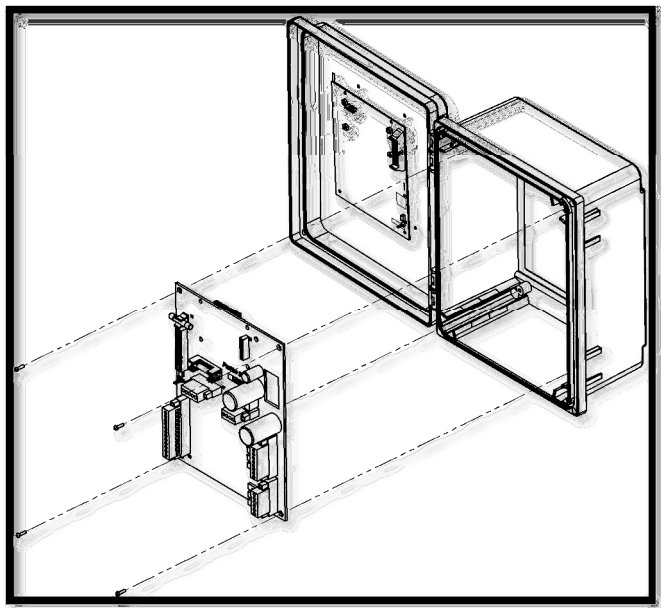

Figure 9
2. Remove the 4 screws that hold the terminal card in place in the product enclosure. Do not lose these screws as you will need them later. See Figure 9.
5. Place the terminal card back into the product enclosure and fasten it using the 4 screws removed previously. Tighten to between 12 and 26 in\*lbs taking care to not leave any screws loose enough that the terminal card rattles around and not too tight that the enclosure holes begin to strip out. See Figure 9.